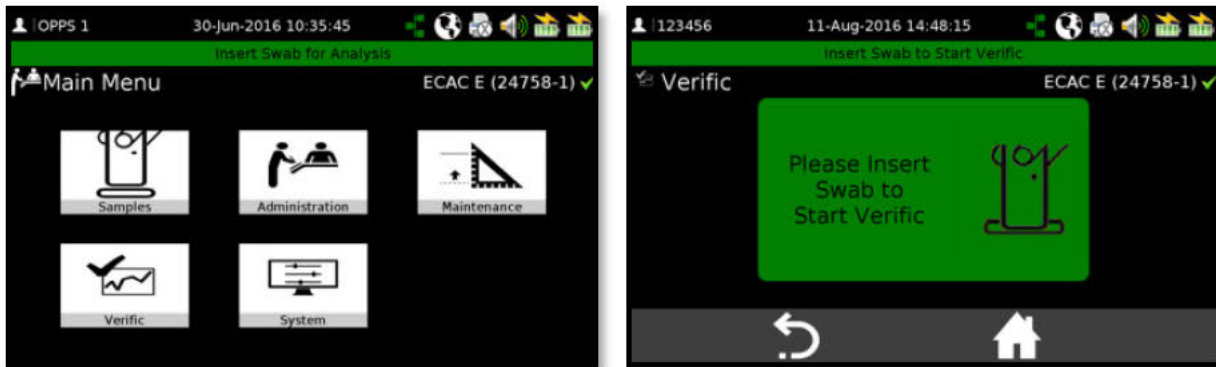

Figure 17a & 17b – “Verific” selected on the “Home” screen, “Verific” screen awaiting swab.
- From the “Home” menu, touch the “Verific” icon (see Figure 17a);